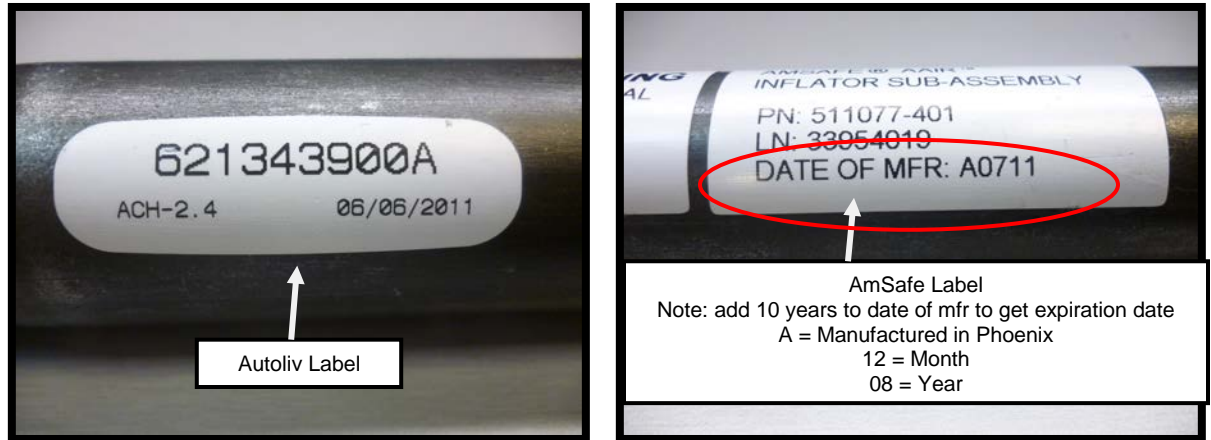

Figure 15: Inflator Label
- (1) The Inflator shall be stored in cool and dry environments. Acceptable storage temperature should not exceed 200 degrees F (93-degrees C). The Inflator should be protected from sunlight, dust, moisture, and other contamination.
- (2) The Inflator shall be protected from excessive EMI/RFI/ESD environments.
- (3) The Inflator shall be handled and stored by a person trained in the requirements associated with dangerous goods.
- (4) Observe all local storage regulations. Store only in a controlled area.
- (5) The maximum continuous storage time for the Inflator is 10 years from date of manufacture. The service life of the Inflator Assembly (expiration date) is determined by the date of manufacture shown on the AmSafe label, not the Autoliv label. See Figure 15. If the EMA has been reworked or refurbished, the label will show an expiration date and should be removed and returned to AmSafe for disposal (once it has reached its expiration date).